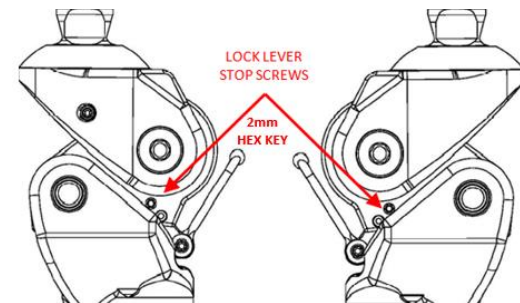

Figure 2
- Use a 2mm hex key to tighten the lock lever stop screws on both sides. The stop screws prevent the lock lever from moving down to the lock position (see figure 2)